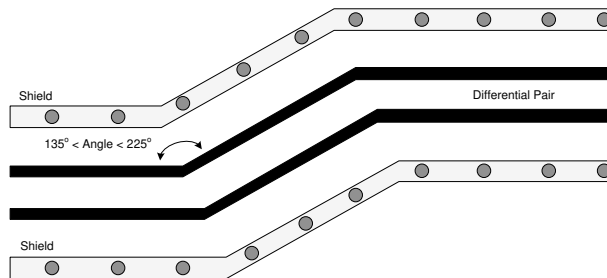

Figure 10-12. V-by-One Routing Example
- Ensure that the bend angles associated with the differential signal pairs are between 135° and 225°(See Figure 10-12).